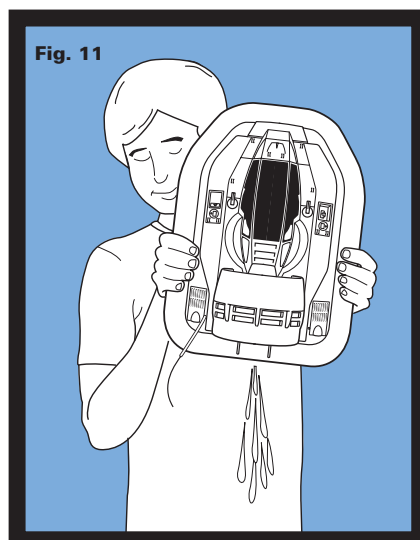

Fig. 11
3. When removing from water, remove battery door and battery pack, hold hovercraft as shown and shake out excess water. (Fig. 11) Dry hovercraft after use with a clean soft cloth.